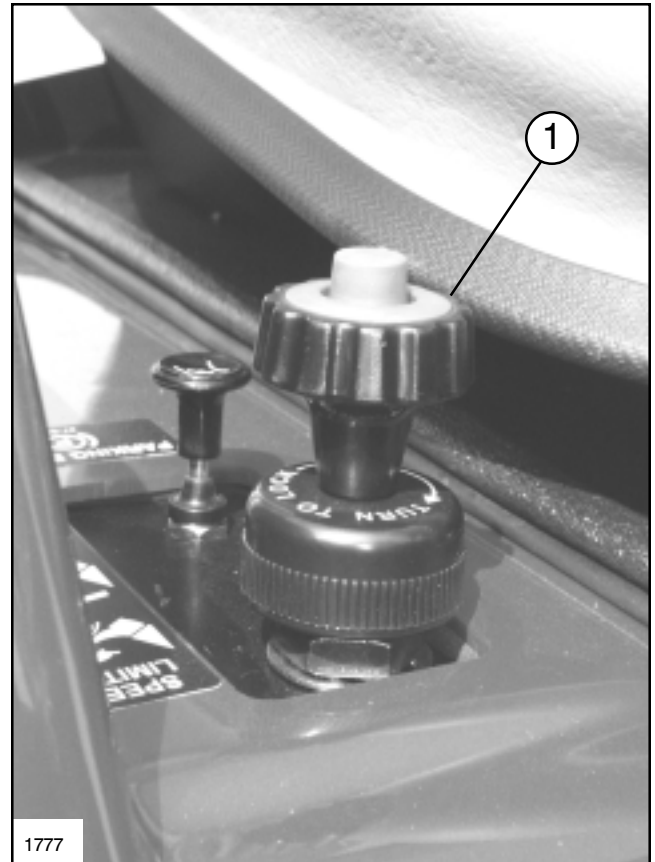

FIG. 2
B. When the Speed Limiter is completely lowered, the engine is stopped at its highest speed. (See FIG. 2)